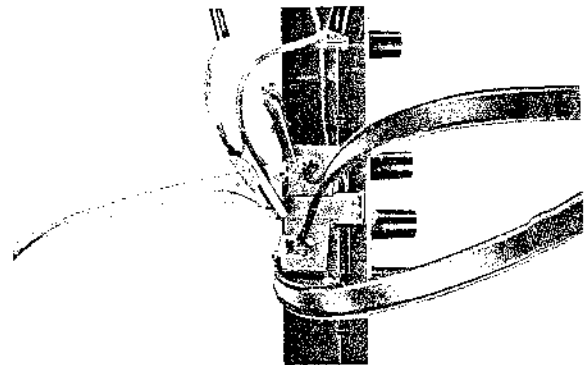

Fig. 3-8 Signal generator connection
3. Connect the output cable of the signal generator to the lugs of the terminal strip located in back of the ANTENNA terminal, as shown in Fig. 3-8.
3. Connect the output cable of the signal generator to the lugs of the terminal strip located in back of the ANTENNA terminal, as shown in Fig. 3-8 on page 14.